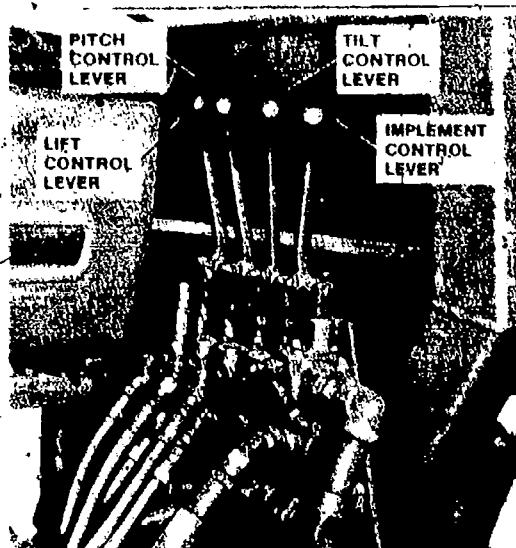

Fig 4-13. Three-point hitch controls.
(4) Three-point hitch controls (fig 4-13). The three-point hitch is equipped with four hydraulic controls. The lift, pitch, and tilt levers are used to position the hitch. The implement lever is used to control the attachment. The lift control lever is mechanically held when in the float position.